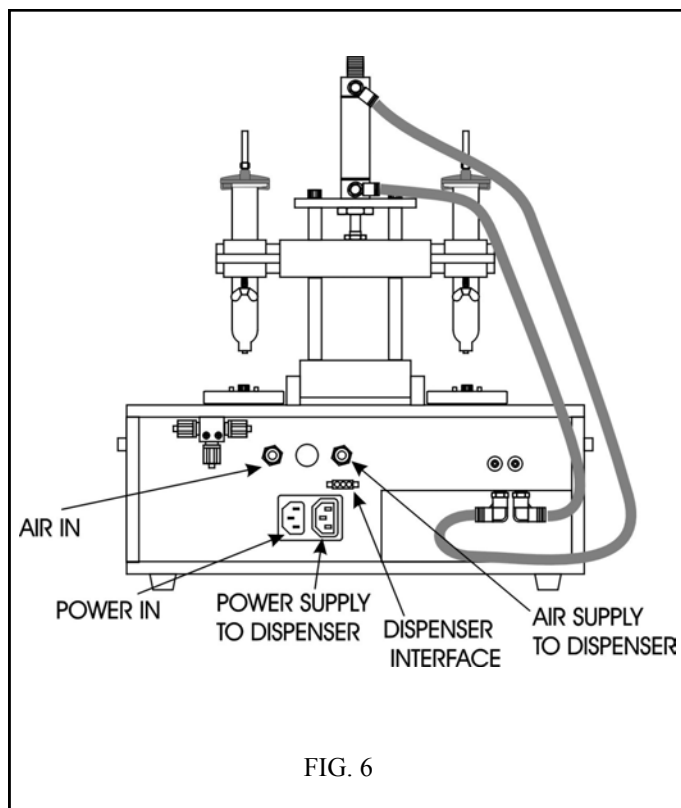

FIG. 6
- i. Attach the air line connector from the dispenser to the back of the table at AIR SUPPLY TO DISPENSER. Be sure to remove the rubber plug from the connector first (fig. 6).
- j. Attach the foot pedal connector from the dispenser to DISPENSER INTERFACE at the back of the RT Table (fig. 6).
- k. Attach the power connector from the dispenser to POWER TO DISPENSER at the back of the RT Table (fig. 6).
- n. Connect the power cable to the back of the Rotary Table at POWER IN (fig. 6). Power cable is supplied with DSP501A or DSPE501A.